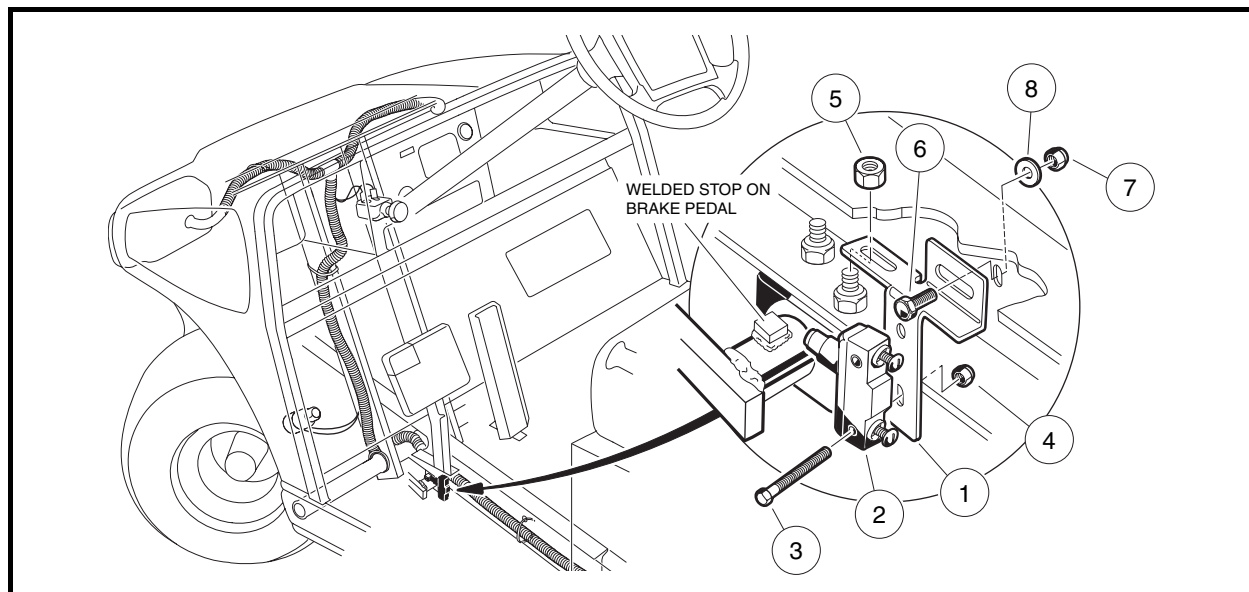

Figure 12-16 Brake Pedal Limit Switch
2. Remove the two wires from the brake pedal limit switch (2) (**Figure 12-16, Page 12-18**).
3. Remove the nut (7), washer (8), and screw (6) from the limit switch bracket (1).
4. Remove the nut (5) from the limit switch bracket.
1. Install in the reverse order of removal, leaving the screw (6) and nut (5) loose (**Figure 12-16, Page 12-18**).
3. With the limit switch bracket adjusted as described in the previous step, tighten the nut (5) and locknut (7) to 40 in-lb (4.5 N·m).